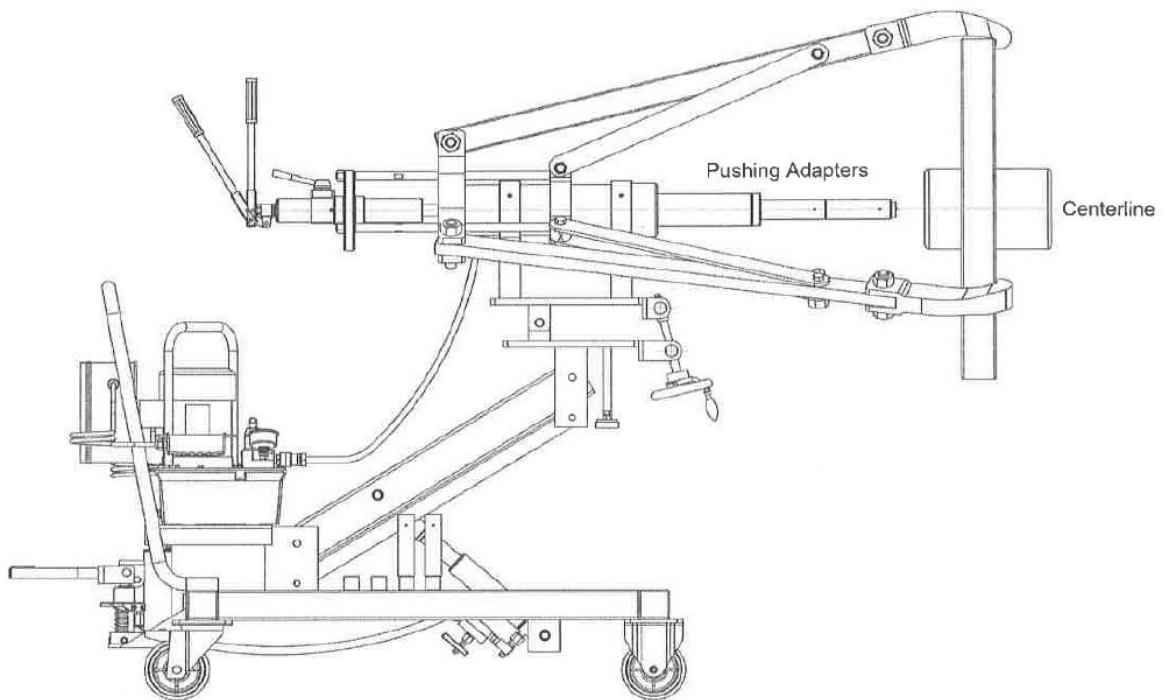

Figure 5 – Adding Adaptors
5.3.4 Add as many adaptors as practical to the forcing cylinder (see Figure 5).